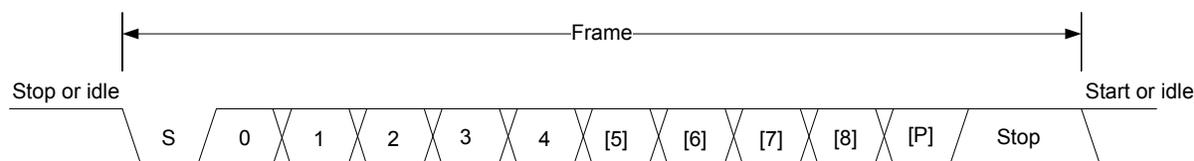

Figure 18.2. USART Asynchronous Frame Format
The frame format used in asynchronous mode consists of a set of data bits in addition to bits for synchronization and optionally a parity bit for error checking. A frame starts with one start-bit (S), where the line is driven low for one bit-period. This signals the start of a frame, and is used for synchronization. Following the start bit are 4 to 16 data bits and an optional parity bit. Finally, a number of stop-bits, where the line is driven high, end the frame. An example frame is shown in Figure 18.2 USART Asynchronous Frame Format on page 553.